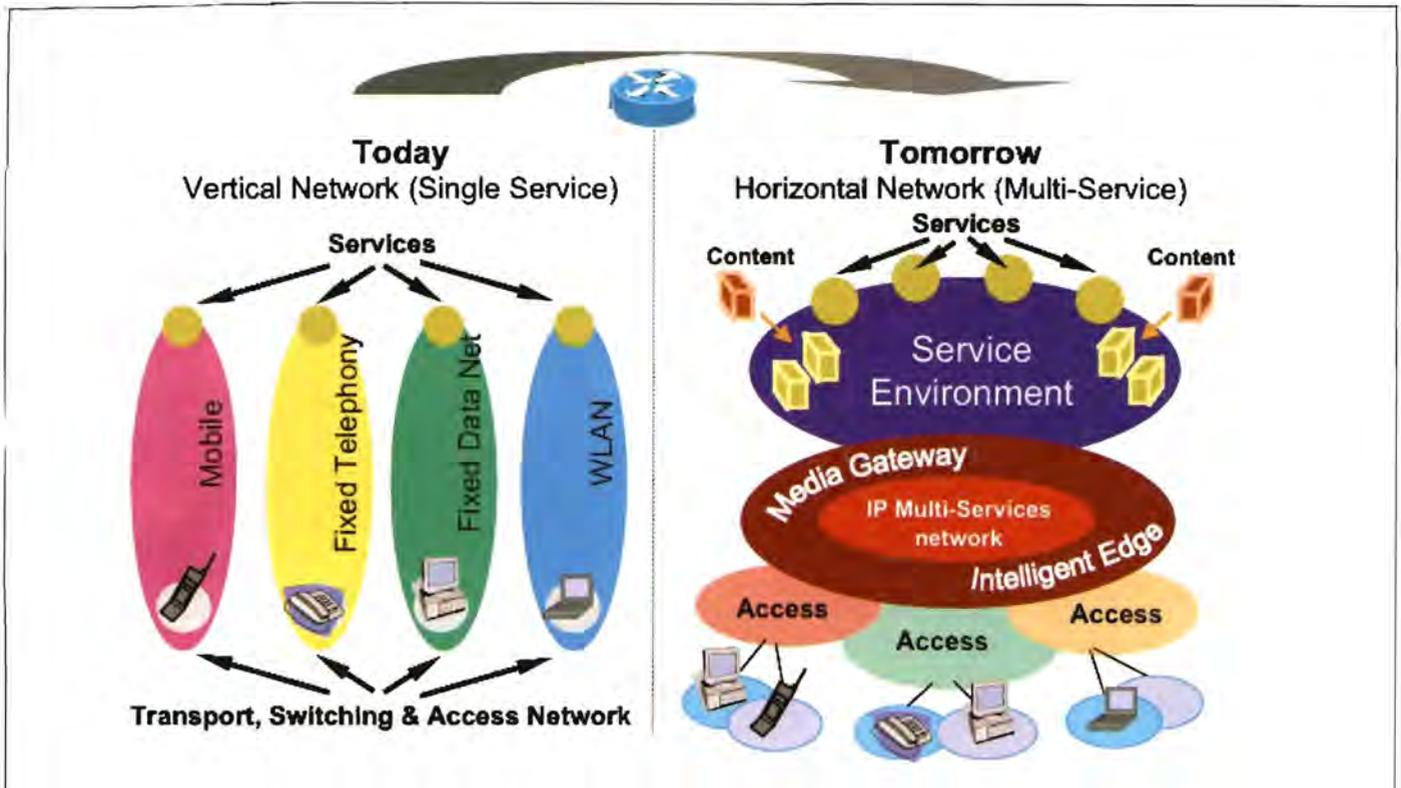

Figure 1: Move from single service to IP-based multi-services
Today's services are dominated by packet (IP) mode and Internet services, with delivery mechanisms that are becoming more radio based. As shown in Figure 1, today's vertical, service-orientated networks will evolve into tomorrow's horizontal, Internet multi-service based architecture. The latter has an all IP core network with a variety of access networks, which will mostly be radio based. Figure 2 demonstrates how such a scenario may be depicted in terms of a layer structure and indicates where satellites can play an important role at the top broadcast, wide cell coverage, providing mobility. To preserve quality of service whilst allowing seamless movement between networks, integration between satellite-cellular, Wi-Fi, personal area networks (PAN) and WiMax fixed radio will be necessary. The advantage of satellites has, and will always be, their wide area coverage. However, their power and spectrum efficiency has been shown to be inferior to terrestrial systems, despite Clarke's predictions – in fact, between 50-100 times improvement would be required for comparability with terrestrial. The future for satellites thus lies in integration with terrestrial and not with competition.